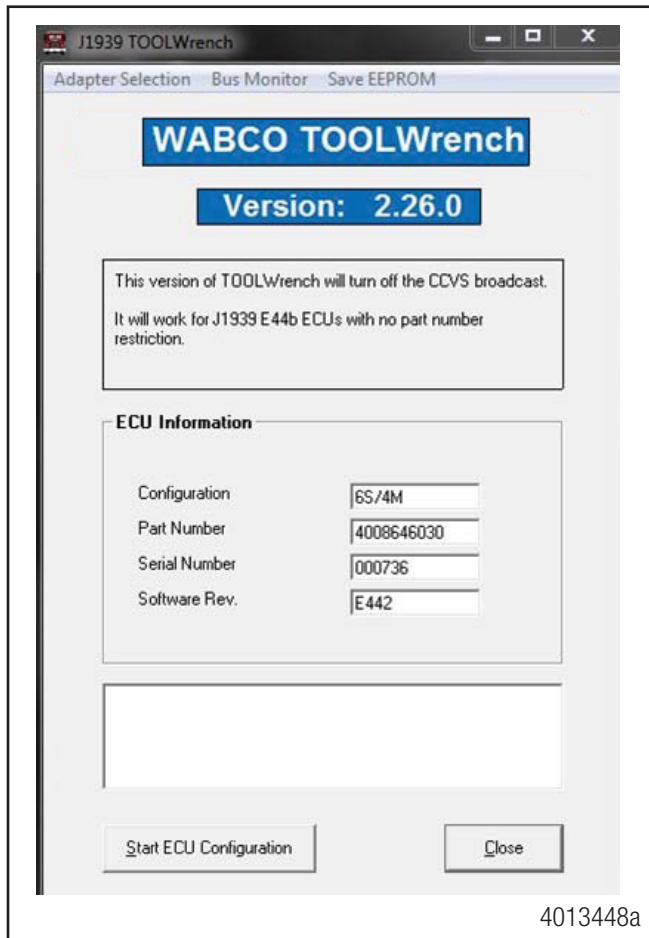

Figure 2
5. When installing the software, verify you are using the correct diagnostic adapter and protocol. If you are not sure, use the selection screen for diagnostic interfaces by selecting the "Adapter Selection" menu in the top toolbar of the TOOLWrench application. Figure 2.